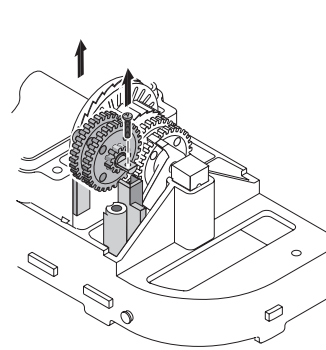

Figure 24
6. Remove the set screw, short gear shaft, and gears (**Figure 24**); be sure to keep the gears on.